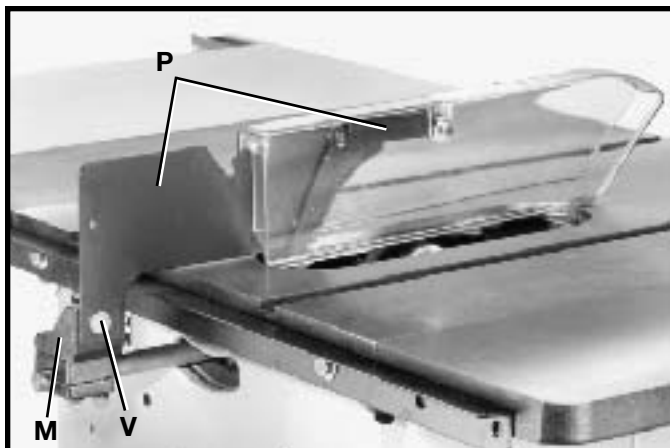
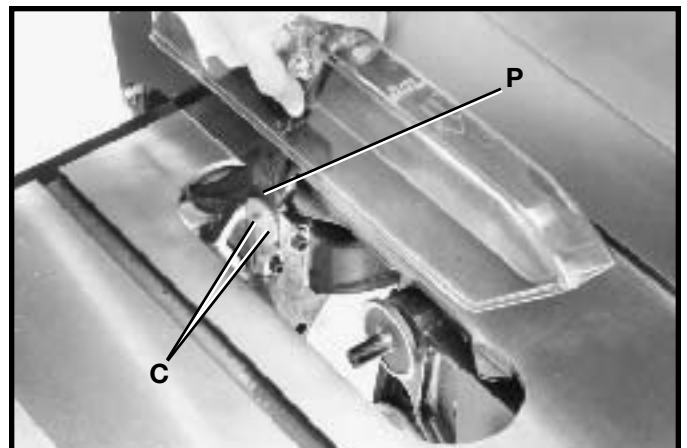

Fig. 31
Fig. 32
9. Loosely fasten splitter and blade guard assembly (P) Fig. 31, to bracket (M) using one-inch long screw (V) and flat washer. Insert the front end of splitter (P) Fig. 32, inside the splitter mounting bracket behind splitter fastener plate and screw (C). Push splitter down as far as possible, making certain the bottom edge of splitter (P) is parallel with the table surface. Tighten screw (C).